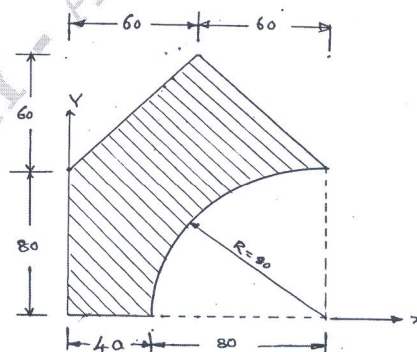

Fig.Q7(b) : All dimensions are in mm
b. Find the coordinates of the centroid of the shaded area with respect to the axes shown in Fig.Q7(b).